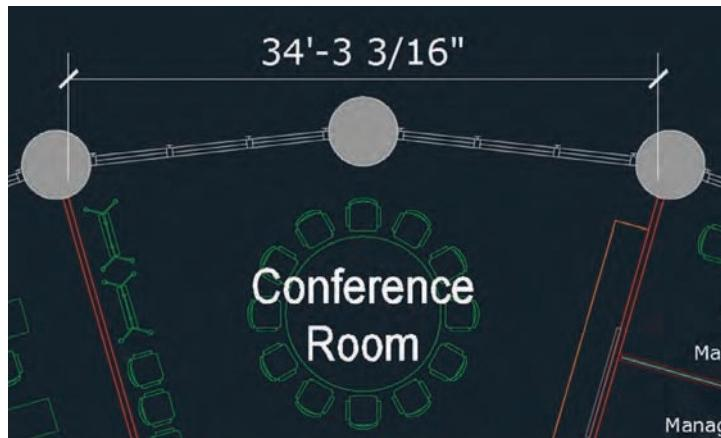

**FIGURE 13.7** Drawing a linear dimension
3. Click the Linear dimension tool in the Annotation panel. Click points A, B, and C shown in Figure 13.7.